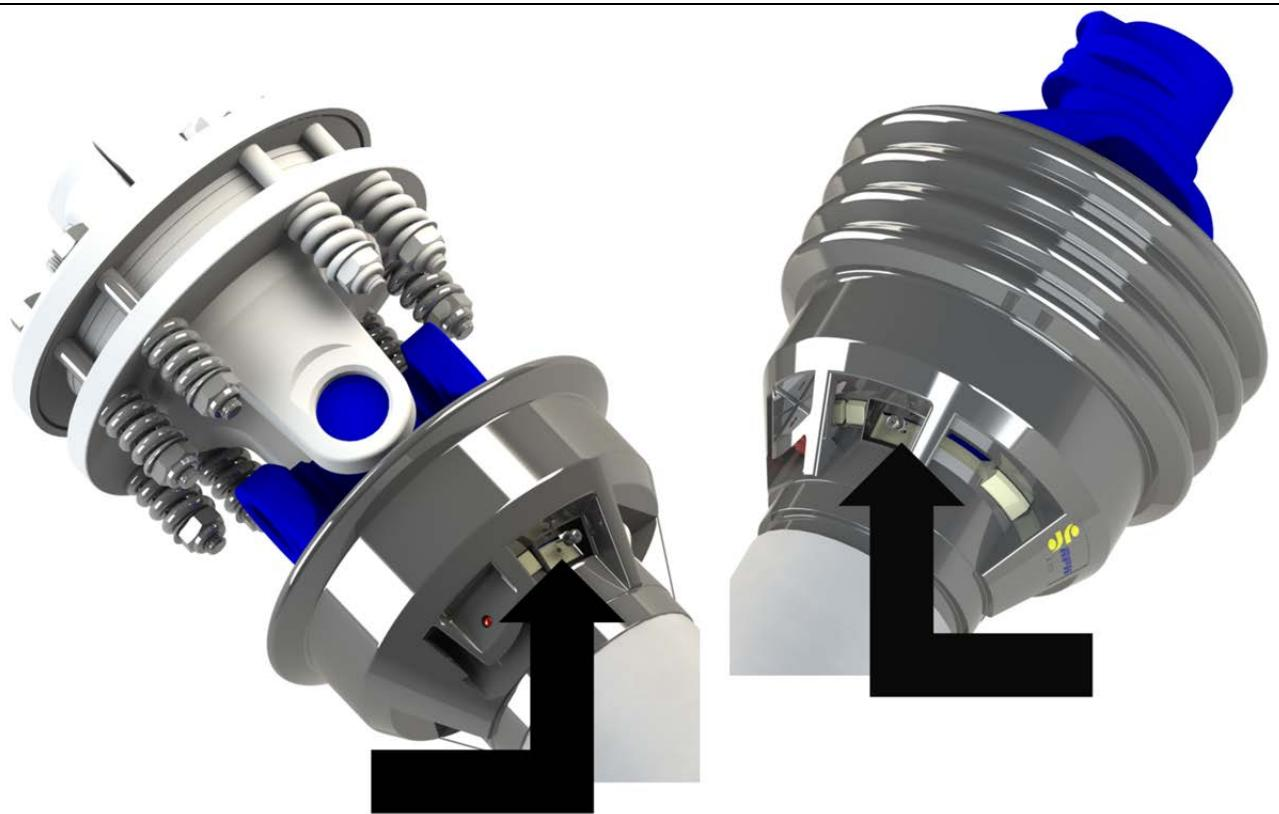

**Figure 24.** Assembly Step 4
- Locate the bearing tabs at either end of the driveline. Insert a flat head screwdriver into the groove indicated in *Figure 24*, below. Rotate the bearing tab approximately an eighth of a turn in the clockwise direction. Ensure the shield grease ports are aligned properly with the bearing grease holes. For further clarification, please refer to *Figure 25* and *Figure 26*, below.